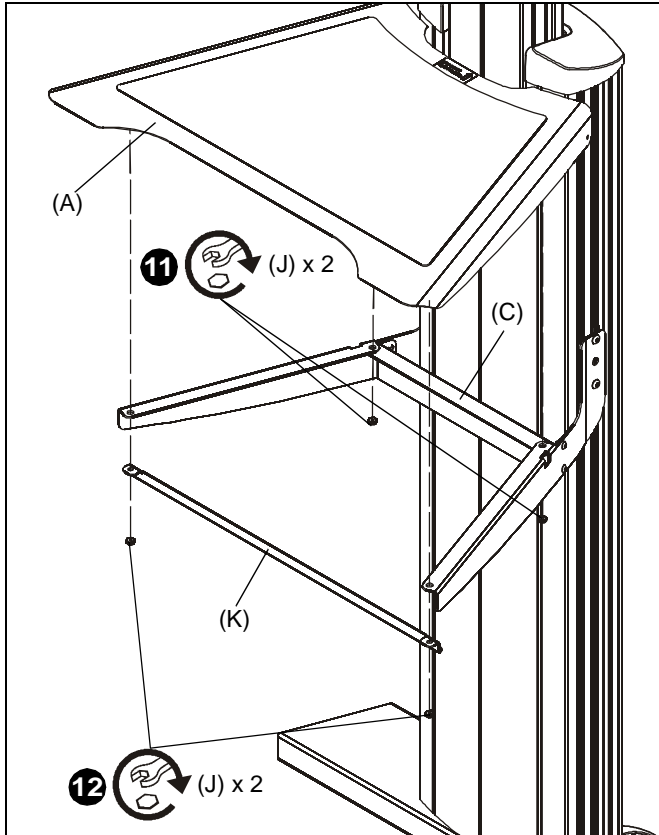

Figure 4
11. Use two #10-24 lock nuts (J) to secure small shelf (A) to center support bracket. (See Figure 4)
12. Use two #10-24 lock nuts (J) to secure small shelf (A) to right and left support brackets (B and C) and front support (K). (See Figure 4)